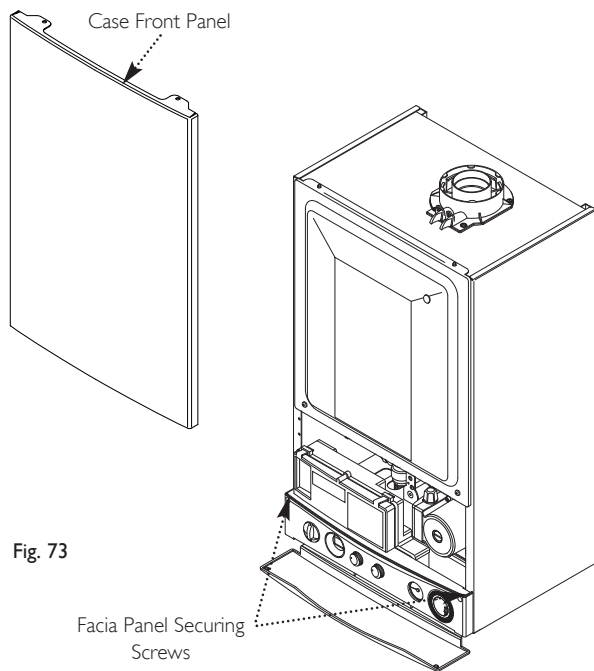

Fig. 73
3. Slacken the screws securing the fascia panel. Lift the outercase panel so that its securing tabs are clear of the fascia. Remove the panel, allowing the fascia to hinge down (Fig. 73).